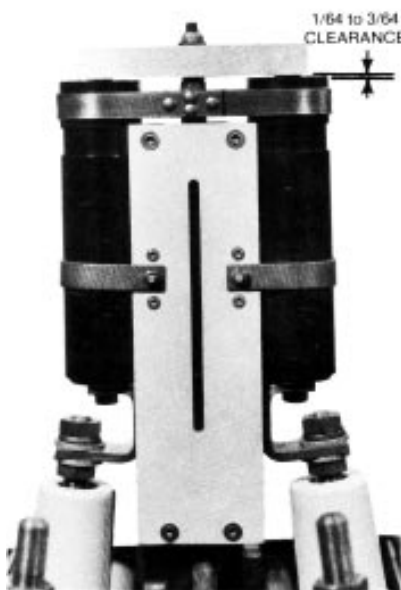

Figure 32.
- F. To confirm proper contact engagement, crank the mechanism to the fully closed position. Check clearance between the movable contact yoke and the top of the contact tubes as shown in Figure 32. Vary